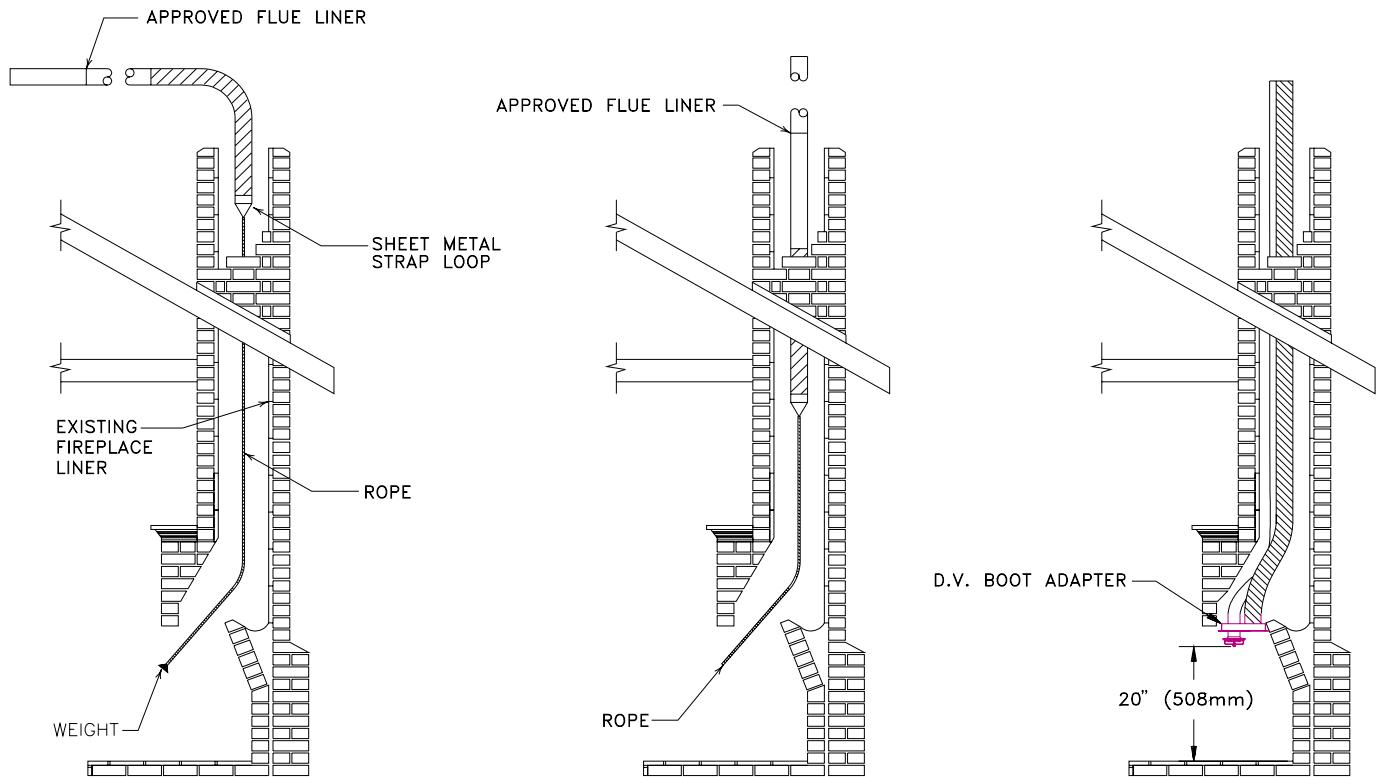

FIGURE 5
12. Attach a sheet metal strap loop to the flex end of the liner(s) and tie a rope to it. Two installers should proceed to the roof and drop the rope (with weight on the end to make sure it goes all the way down) and insert the liner(s) past the flexible portion, into the existing chimney [See FIGURE 5].
13. One installer should then return to the fireplace opening and pull the rope to guide the liner(s) into place through the smoke shelf and the damper opening to a point 20" (508 mm) above the fireplace hearth [See FIGURE 5]. It may be necessary for the person on the roof to turn the liner slightly to avoid mortar chinks and misaligned tiles. The person below should wear leather gloves during this process to avoid being cut.